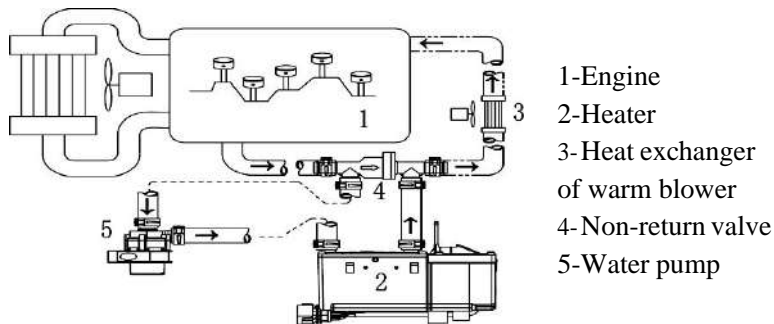

Fig. 5
4.3 4.3 Installation of Cooling Liquid Circulation System(As show in Fig.5)